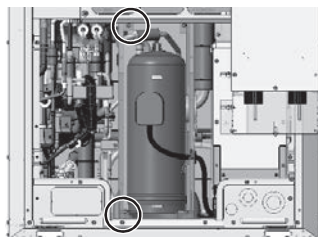

Figure 4
- (4) Remove the left compressor cover by unscrewing the two screws. (See Figure 4.)